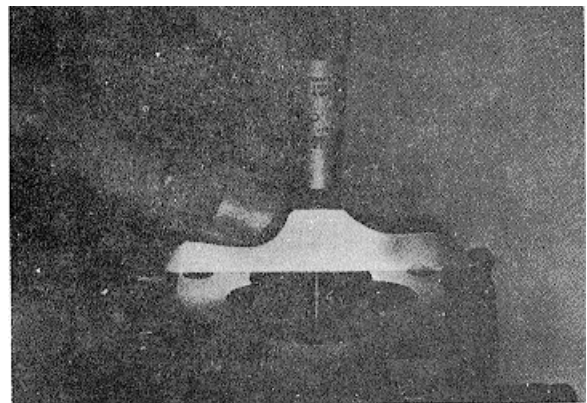

Fig. 5-32, F523. Gear pump pocket depth
3. Check gear body and cover for scoring or wear, replace parts as needed. Check gear pocket depth. See Table 5-5. Fig. 5-32.
Table 5-5: Gear Width And Pocket Depth - Fig. 5-32.